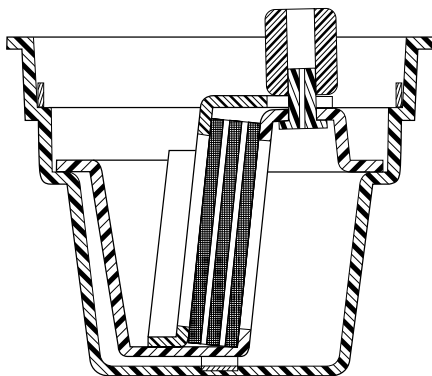

Figure 6. Cross Section of the Blot Module.
11. Place the assembled blot module in the buffer tank in either orientation (figure 6). Be sure the buffer covers the upper electrodes by 3 to 5 mm, but is 8 to 10 mm below the top edge of the tank.